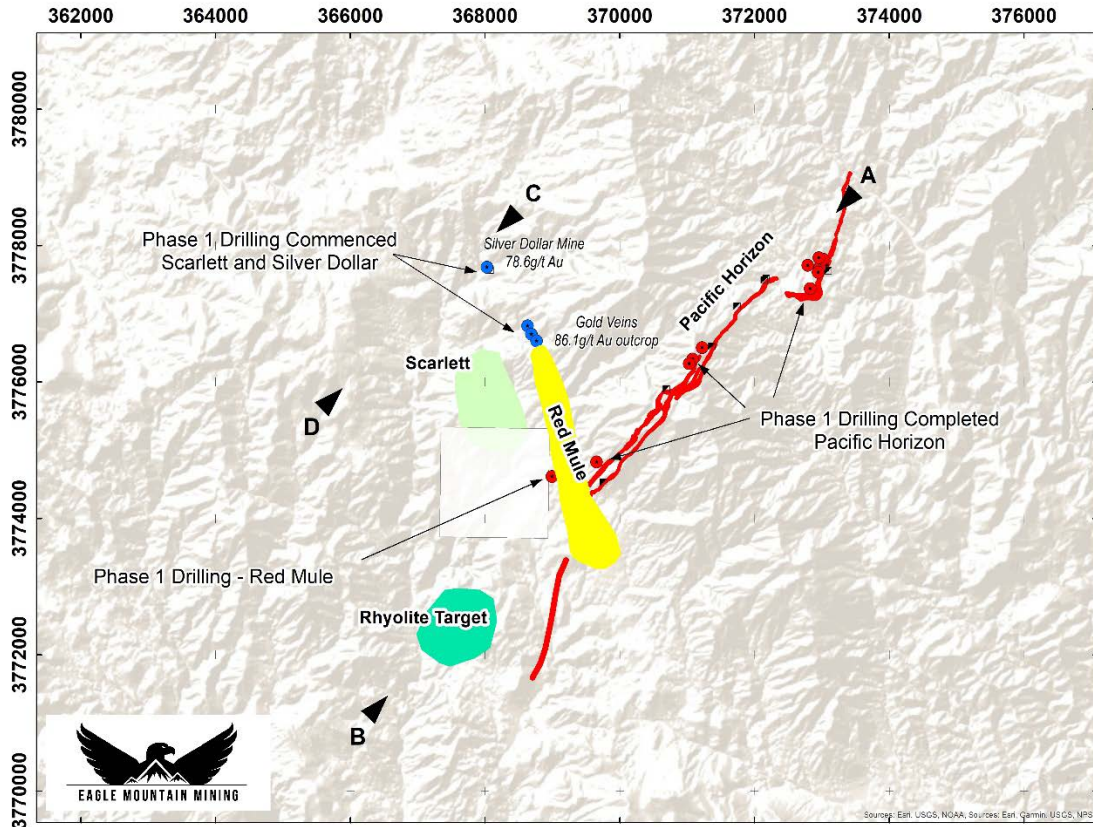

Figure 1 Silver Mountain Project overview with landholding and unique mineralisation styles
**Figure 1** below shows the locations of the completed drilling to date and the current locations for drilling at the Scarlett Prospect. It also shows the section line for the hypothetical long-section illustrating the various types of mineralisation targets within the Silver Mountain Project.